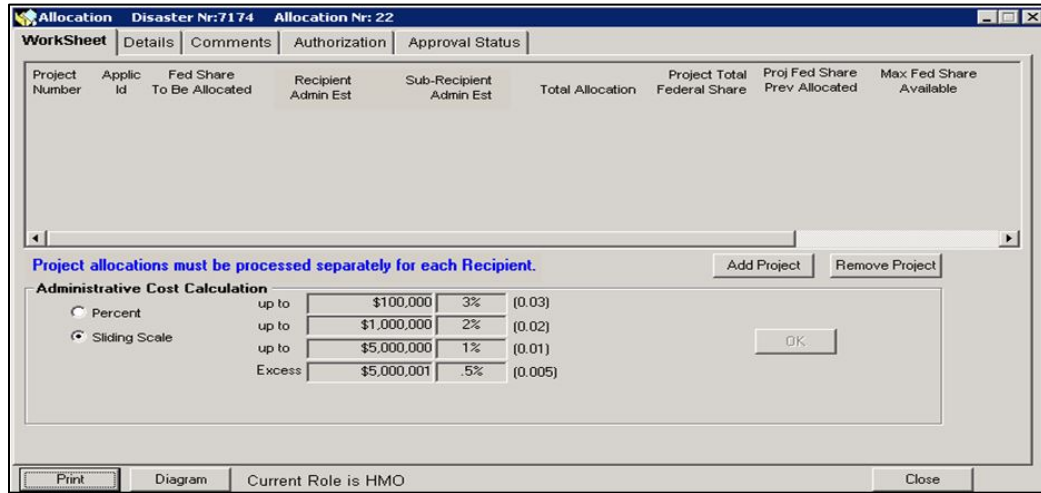

Figure 10-4: Mitigation > Funding > Allocations > Worksheet Tab
- Click the OK button. Five tabs with Allocation information are displayed. The **Worksheet** tab is displayed by default (Figure 10-4).